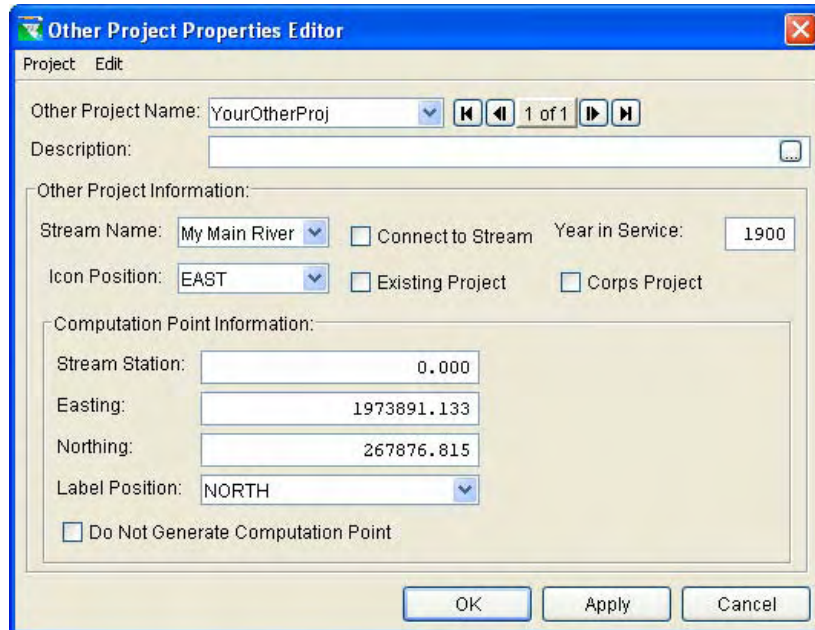

Figure 6.23 Other Project Properties Editor
2. Select **Edit Other Project**. The **Other Project Properties** editor opens, as shown in Figure 6.23.